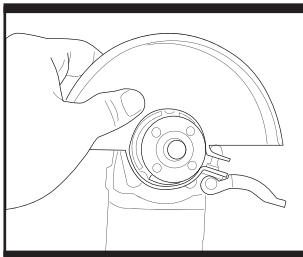
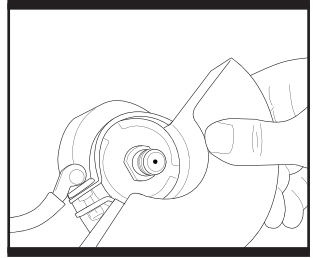

Fig. 4
Fig. 5
4. REPLACING THE GUARD (Fig. 4 & Fig 5)
To remove the guard, pull up the release lever(8), then turn the guard to the position as Fig. 4 (making sure the bulge on the guard ring matching the notch), and remove it.
To install the new guard, insert the guard to the head of the machine from position as Fig. 4, making sure the bulge on the guard ring matching the notch, then turn the guard to the appropriate position, where it will deflect hot sparks away from the operator and offer the maximum protection for the operator. Pull down the lever to clamp it.